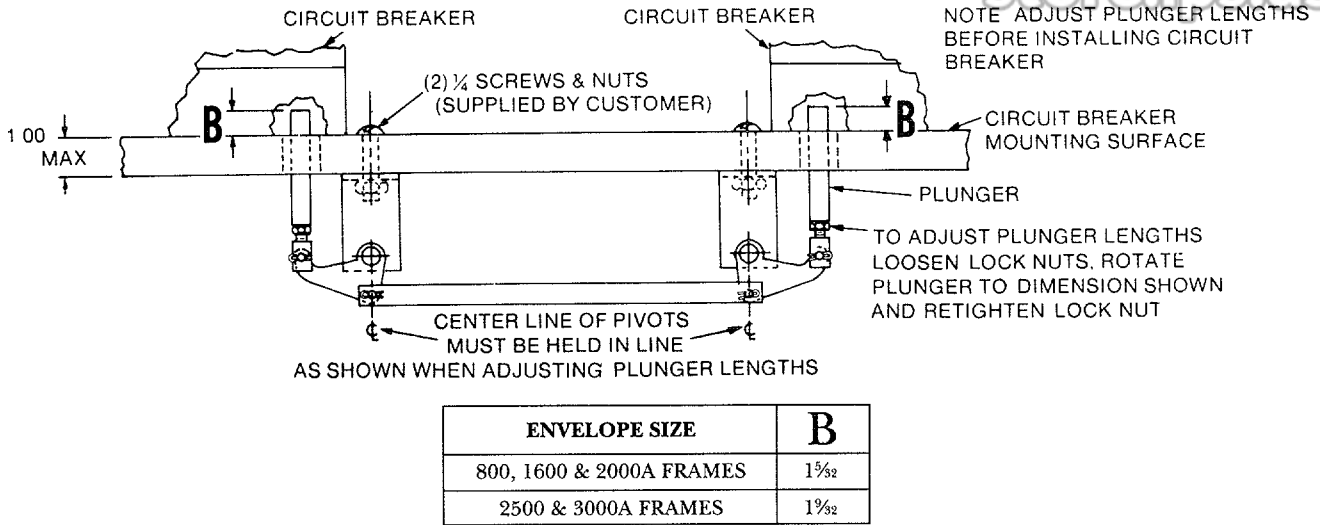

Figure 4. Mounting interlock 800, 1600 and 2000A, 2500 and 3000A frames
Mount and adjust as shown in Figure 4.
3. If readjustment of plungers is required, perform as outlined in Figure 4.